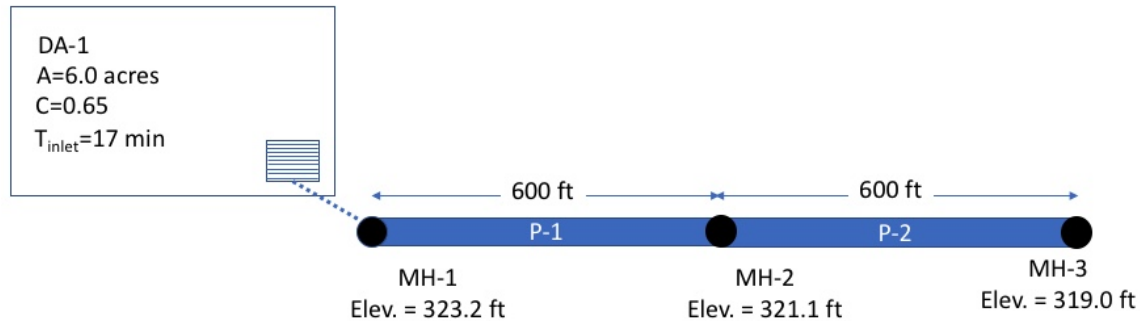

Figure 9: Drainage System Layout
20. (150 points) Consider the drainage area depicted in Figure 9. The 6.0 acre drainage area has a runoff coefficient of 0.65, and an inlet time (time of concentration to the inlet depicted in the figure) of 17 minutes. The pipes are concrete (Manning's $n = 0.013$). The initial invert elevations for the junction boxes (MH-1, MH-2, MH-3) are 323.2, 321.1, and 319.0 feet, respectively.